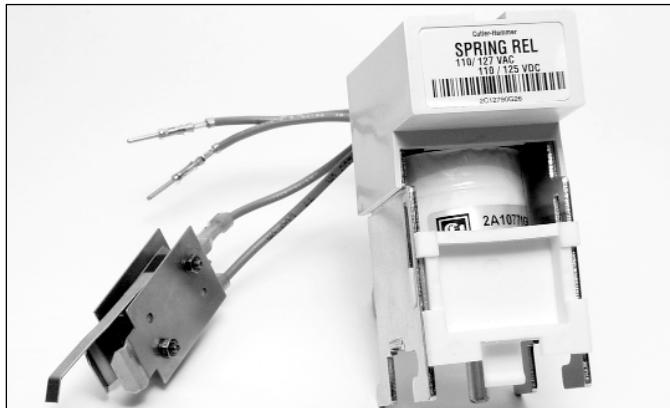

Figure 3-50 Spring Release with Optional Latch Switch
**Spring Release** - The spring release is an optional device (Figure 3-50). It remotely closes the circuit breaker when the coil is energized by a voltage input (Table 3.4). The closing spring must be fully charged and the trip latch reset (not held in the tripped position) for the SR to operate. If these two conditions are not met the close signal will be ignored until it is removed and re-applied.
The Latch Check Switch wired to the Spring Release will not permit activation of the Spring Release until the circuit breaker is fully charged and the trip latch is reset (Figure 3-50). If power is applied and maintained to the Spring Release, an activation will occur when the circuit breaker is "ready to close".